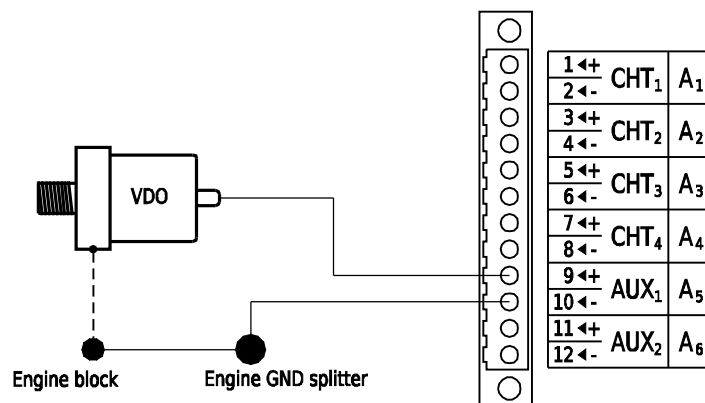
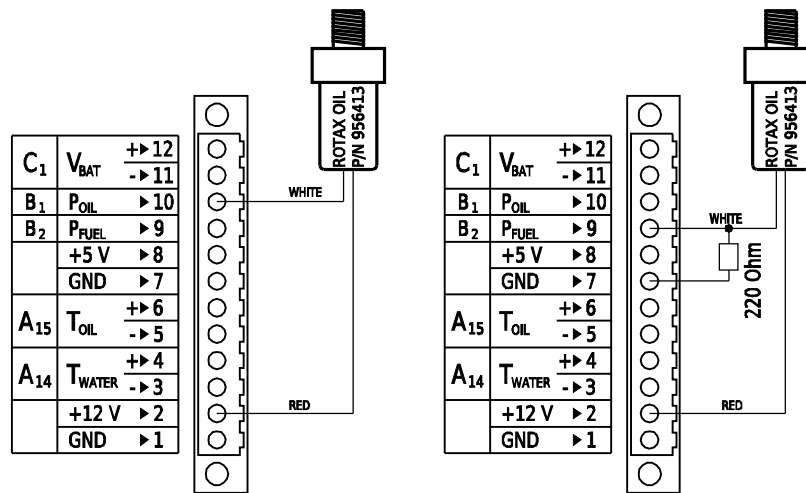

Figure 24: Passive (non-isolated) oil pressure sensor connection schema.
Figure 26: Rotax active oil pressure sensor with current output connection schema. Connection to channel B1 (left), connection to channels B2 – B6 (right).
- Connect passive (non-isolated) oil pressure sensor to correct ”+“ pin (channels A1 – 12 or A14 – A15 can be used). Ground is provided through the engine block and must be connected to ”–“ pin of the same A channel. See figure 24 for proper connection schema.
Rotax active oil pressure sensor has two wires (older versions have three). Red wire provides power for the sensor operation and is connected to +12 V pin. White wire provides signal and is connected to channel B1. Black wire, if exists, is not used (the sensor is grounded via engine Block). See figure 26 (left) for proper connection schema.
Channels B2 – B6 can also be used, but 220 Ω resistor must be connected between B2 – B6 channel and GND pin. See figure 26 (right) for proper connection schema.
Rotax engines usually come equipped with the oil pressure sensor. Models shipped before 2008 have a passive VDO 0 – 10 bar (0 – 150 psi) range sensor, see figure 24 for connection schema. Rotax engines shipped after 2008 have installed Rotax active oil pressure sensor, see figure 26 for connection schema.
Lycoming, Continental and Jabiru engines usually come equipped with 1/8 – 27 NPT thread passive oil pressure sensor. See figure 24 for connection schema.